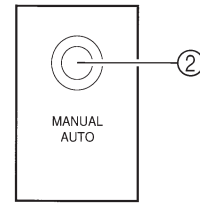
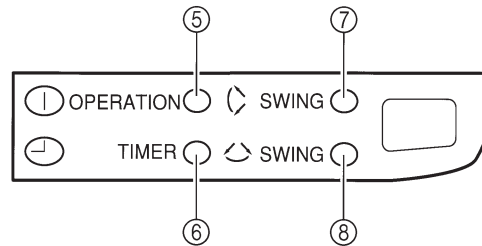

Fig. 2
Fig. 3
- ① Operating Control Panel (Fig. 2)
- ② MANUAL AUTO button
- ③ Remote Control Signal Receiver
- ④ Indicator Lights (Fig. 3)
- ⑤ OPERATION Indicator Light (red)
- ⑥ TIMER Indicator Light (green)
- ⑦ SWING Indicator Light (orange) (VERTICAL SWING)
- ⑧ SWING Indicator Light (orange) (HORIZONTAL SWING)